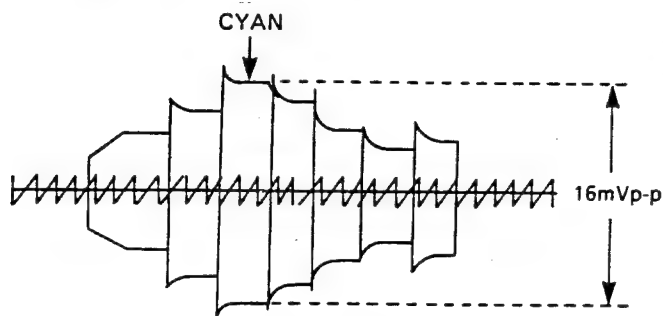

Figure 2-20.
- b) Adjust R5813 (record chroma control) so that the red level should be 16mVp-p as shown in Fig. 2-20.